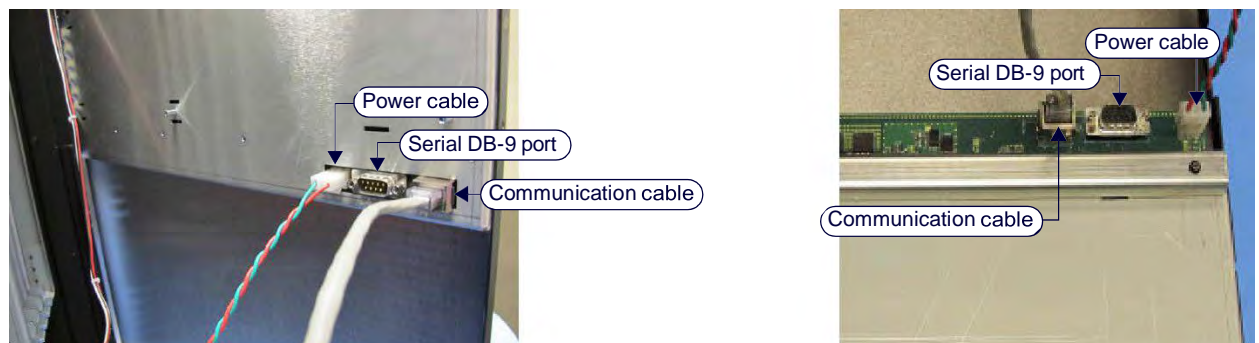

FIG. 159 Control panel cables/ports (appearance varies slightly depending on model)
5. Connect a null modem serial cable to the serial (DB-9) port on the control panel (FIG. 159):